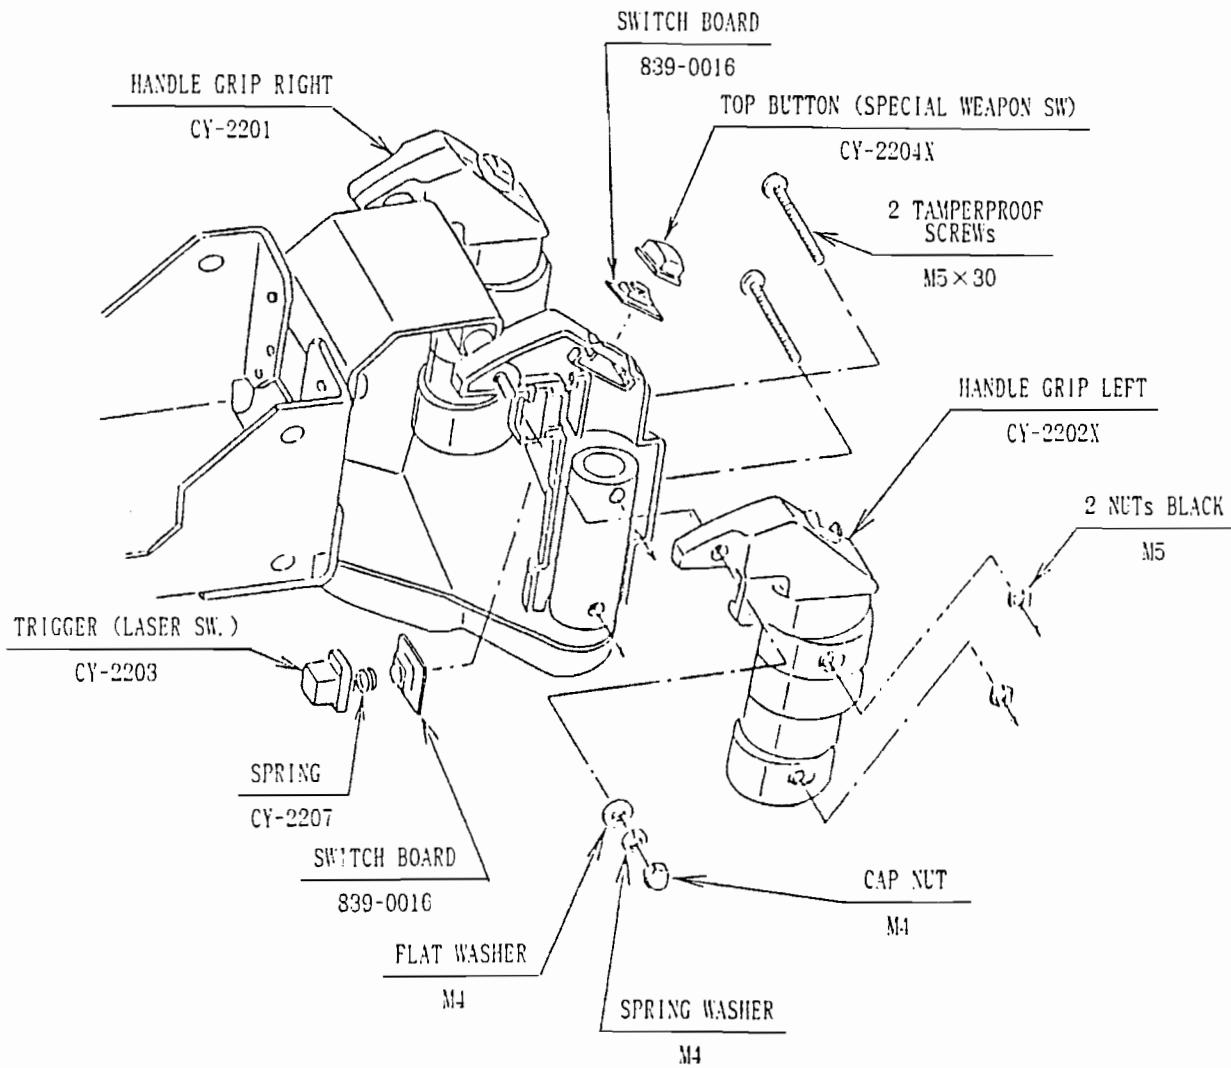

FIG. 5
- ① Take off the CAP NUT, SPRING WASHER and FLAT WASHER (M4), then 2 TAMPERPROOF SCREWS (M5 × 30) and 2 NUTs black (M5).
- ② Remove the HANDLE GRIP and replace the SW. BOARD (see FIG.5).